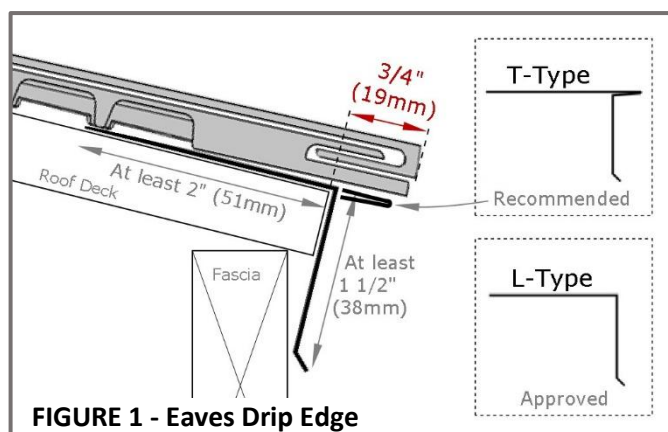

FIGURE 1 - Eaves Drip Edge
- EAVES** - Install L-Type or T-Type drip edge. Drip edge must extend a minimum of **2" (51mm)** back from the roof edge, bend downwards over the fascia at least **1 1/2" (38mm)**, and kick out to direct water away from the fascia board. See **Figure 1**. F-WAVE recommends T-Type drip edge extending out from the eaves **1/2" (13mm)**. Apply underlayment over drip edge metal at eaves.
- Install either a **T-Type** or an **L-Type** drip edge at the eaves. Starter must overhang the eaves edge by **3/4" (19mm)**. See **Figure 1**.